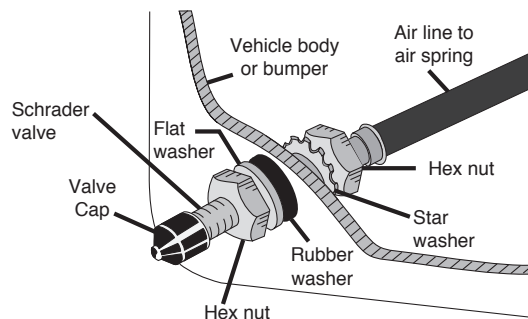

fig. D.2
4. Place a 5/16" nut and star washer on the air valve. Leave enough of the inflation valve in front of the nut to extend through the hole and have room for the rubber washer, flat washer, and 5/16" nut and cap. There should be enough valve exposed after installation – approximately 1/2" – to easily apply a pressure gauge or an air chuck. (Fig. D.2)